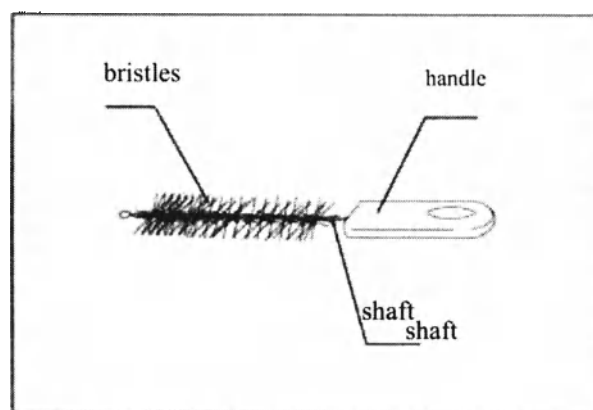

Fig 7.2
The Channel port cleaning brush is used to brush the endoscopic injection opening. (Fig 7.2)
1. Check for loose or missing bristles. (See Fig 7.2)